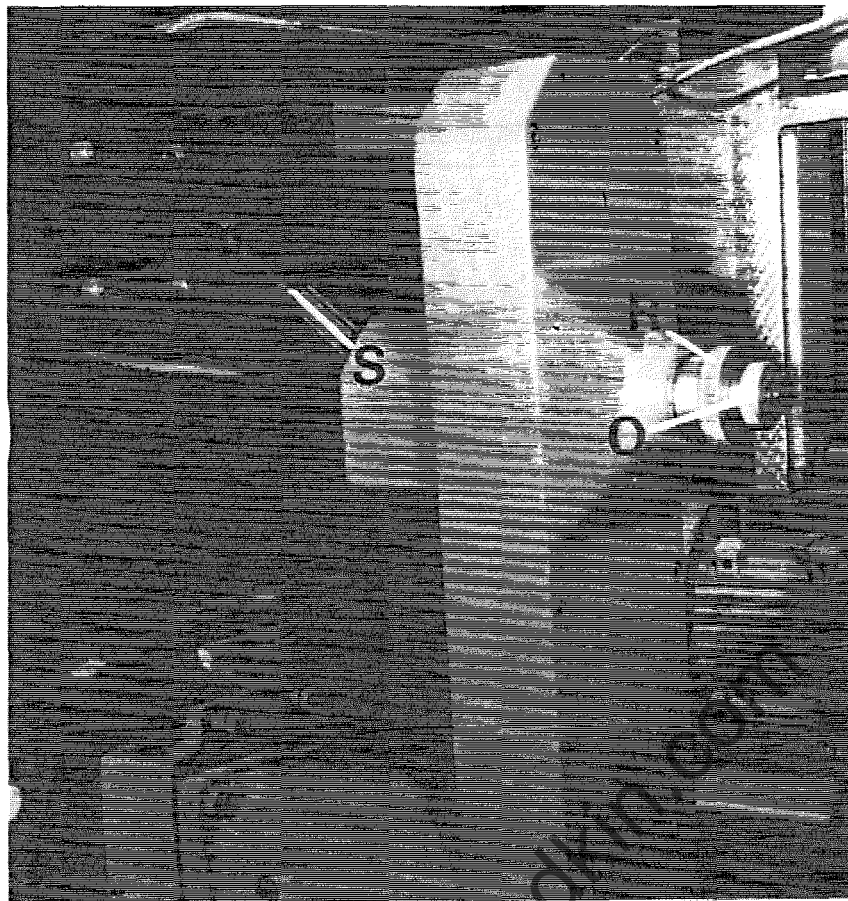

FIG. 45
- 1 When feeding timber against front of dogs (ie, with dogs pushing timber) the drive to pressures should be released by loosening knurled locking handwheels "Q" FIG.45, then releasing drive by knurled handwheels "R". Relock handwheels "Q".
- 2 Remove 3 - button head screws "D" FIG.45 securing belt cover plate to head.